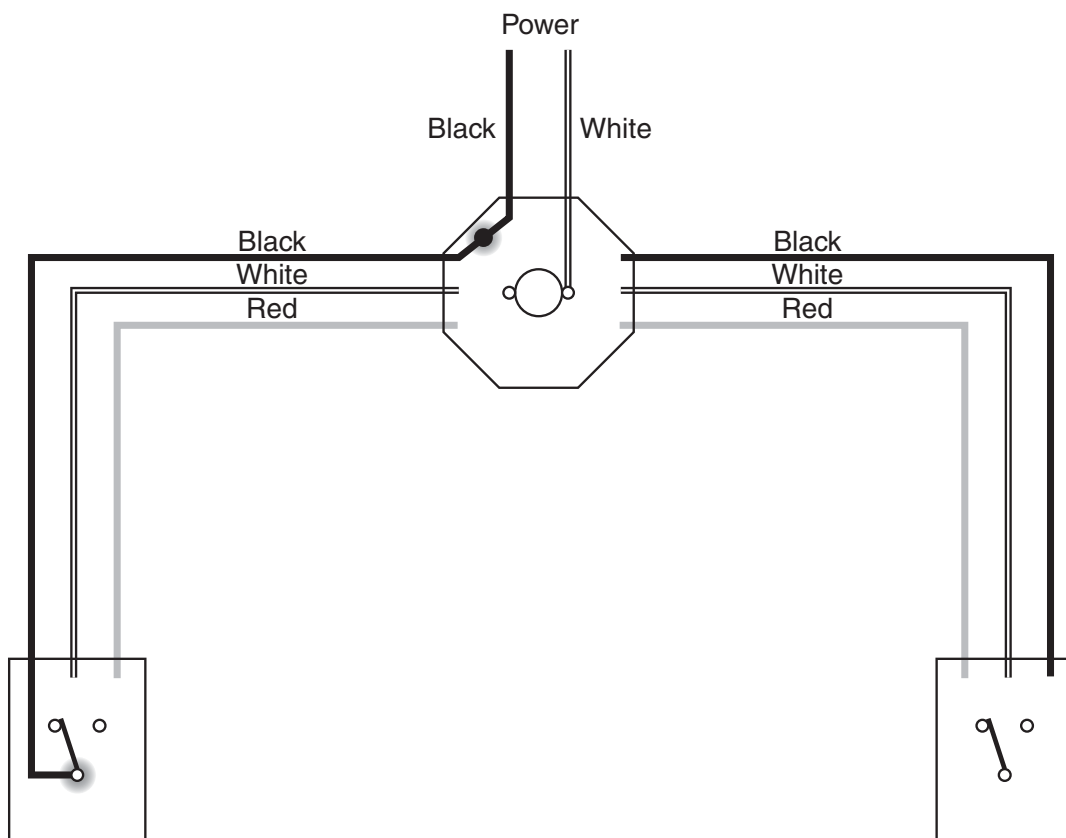

Figure 8-15 The hot conductor is connected to the common terminal of one 3-way switch.
2. *Connect the hot conductor to the common terminal of one 3-way switch.* The black wire of one three-conductor cable will be connected to the hot conductor in the power cable, shown in Figure 8-15. The other end of the black wire will be connected to the common terminal of the 3-way switch. Since the three-conductor cables are used as switch legs, the red or white wires could have been employed to carry the hot wire to the